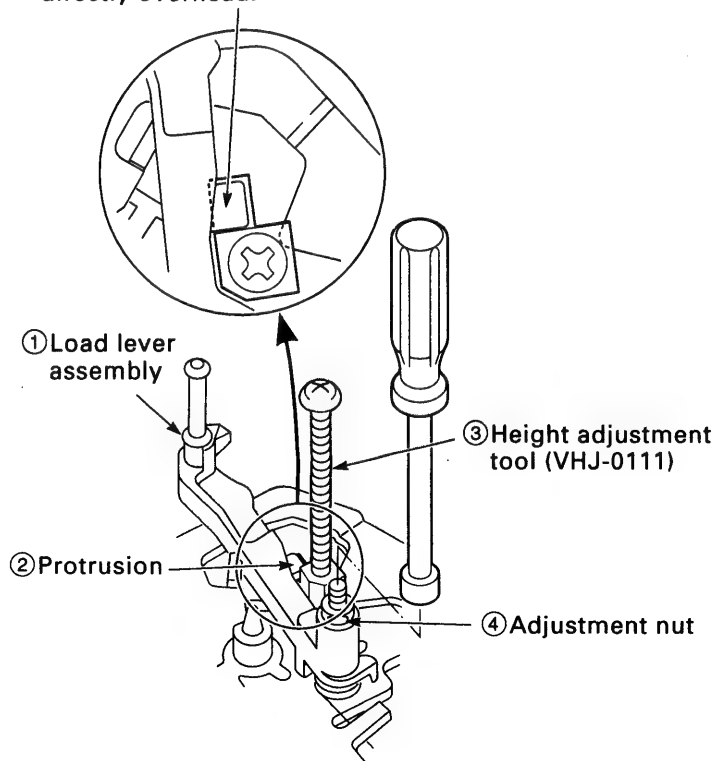

Fig.4-3-2
4-3-2. LOAD LEVER ASSEMBLY HEIGHT ADJUSTMENT (See Fig.4-3-2)
2. Position the height adjustment tool (VHJ-0111) ③ under the full surface of the protrusion ② on the load lever assembly ①, as shown in Fig.4-3-2.
3. Using your fingers, gently screw the adjustment nut ④ clockwise into the nut box (VHJ-0048) ⑤ until the protrusion ② of the load lever assembly ① touches the height adjustment tool (VHJ-0111) ③ and the screw starts to feel tight. Next, loosen the adjustment nut ④ by 270° counterclockwise.
4. Load a cassette tape (NTSC: T-160, PAL: E-240). Wind the tape to the beginning, and repeat FF↔REV five times (repeat for the same portion 30 to 60 seconds). If the bottom edge of the tape breaks, rotate the adjustment nut ④ in the counterclockwise direction by about 90°. Repeat FF↔REV five times again and check that the tape edge does not break (adjust again if it does). Next, repeat CUE↔REV five times and check that the tape is not damaged. If damaged, rotate the adjustment nut in the clockwise direction by about 90°. Repeat FF↔REW and CUE↔REV and check that the tape is not damaged.